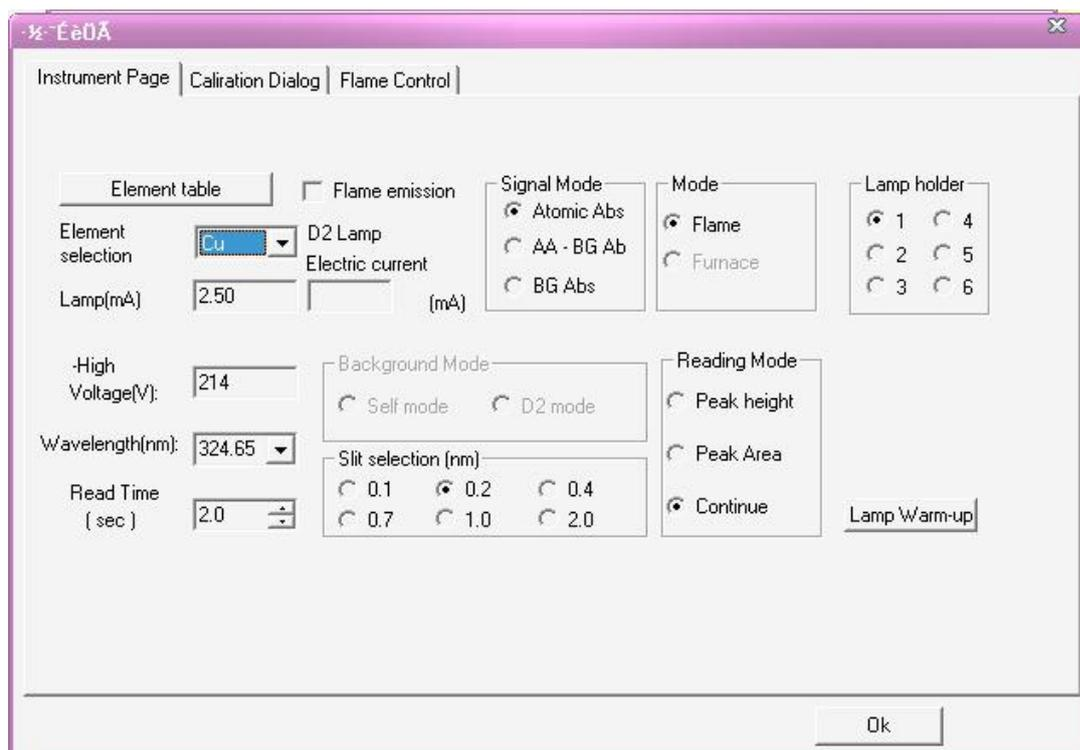

Figure 6-2
4. Press "Method Editor" in the "Adjustment" dialog, display the figure 6-2